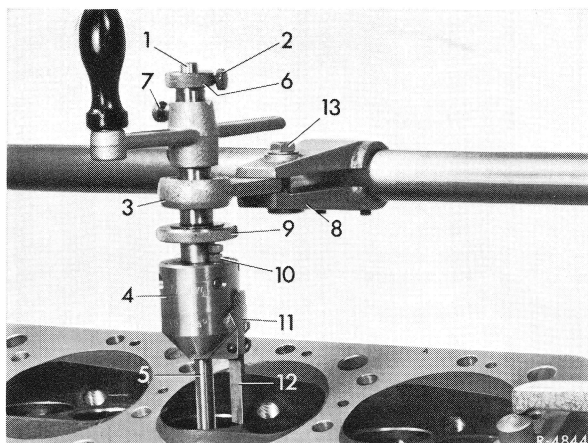

Fig. 2
- 3 Select correct pilot (5) with matching collet (Fig.2). Slide pilot with slack collet into valve guide until collet shoulder rests on valve guide. Clamp pilot.
- 5 Adjust rapid adjustment (10) on carriage until the tip of the turning tool rests against the center of the valve seat.